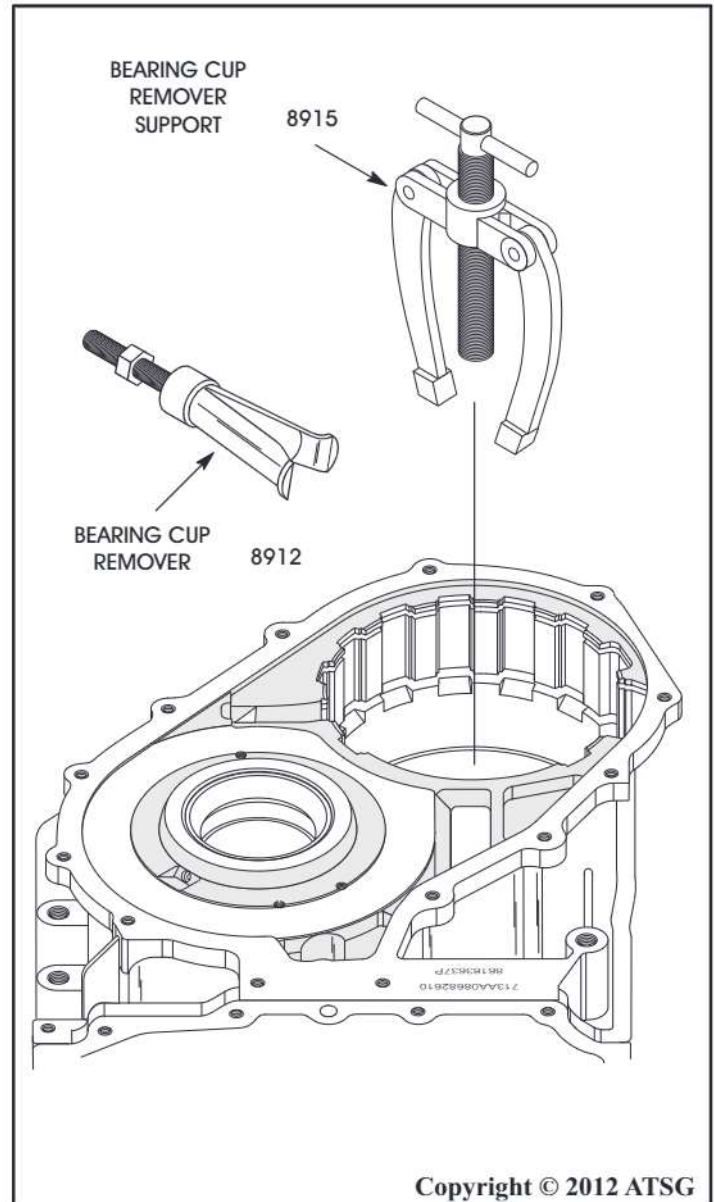

Figure 92
3. Use the two special tools shown in Figure 92 to remove the small tapered roller bearing cup from the case.